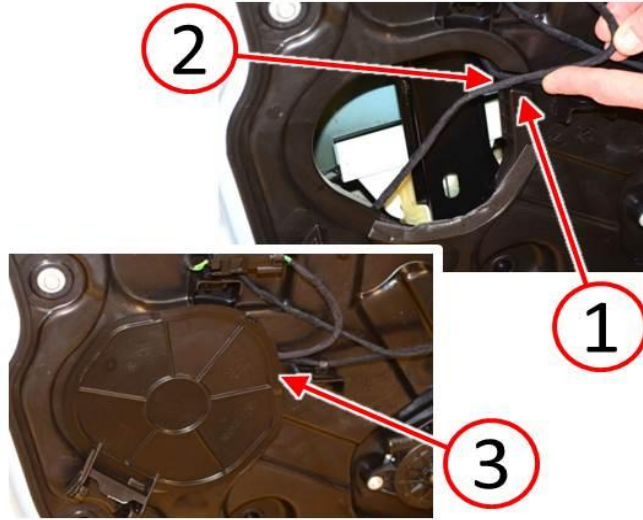

Fig. 12 Ensure Wires Are Properly Routed
11. Ensure the wire harnesses (2) are properly routed in the carrier plate channel (1) before closing the access door (3) (Fig. 12).